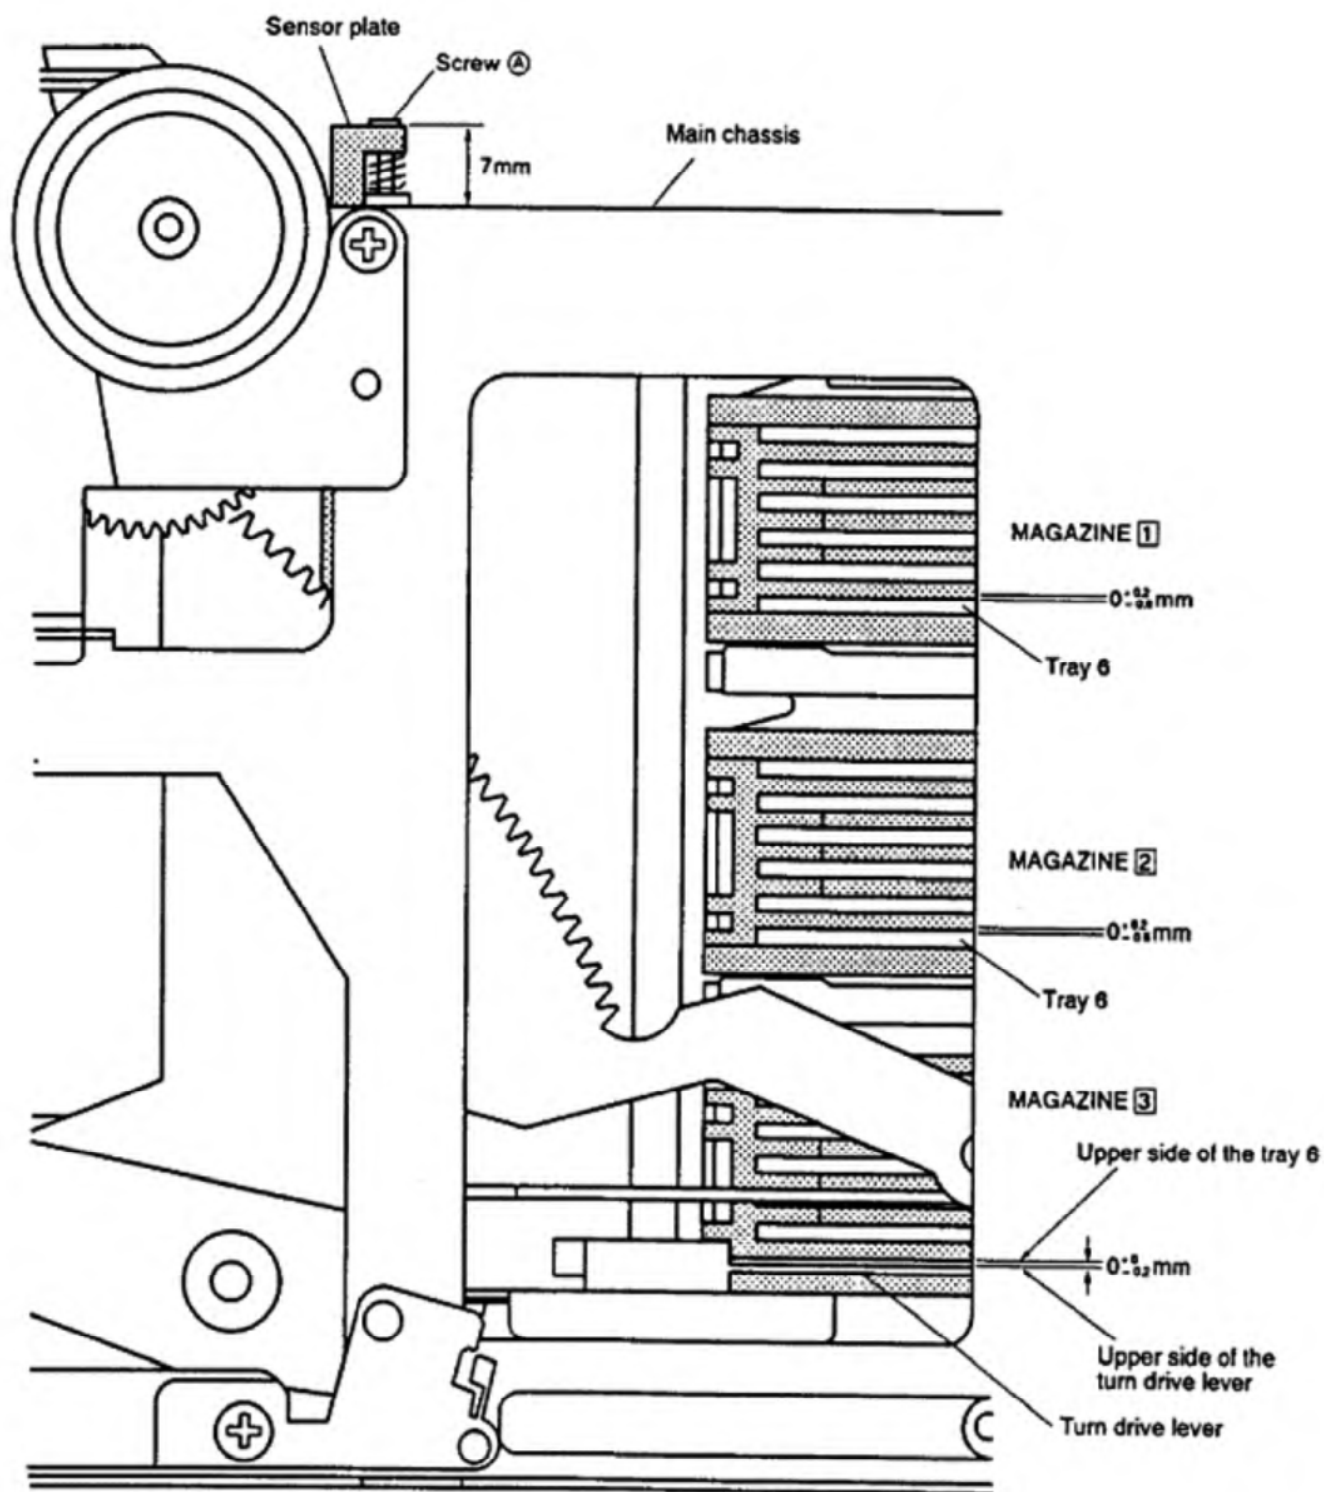

Figure. 7-2
1. Adjust screw (A) until the top of the sensor plate is 7mm above the main chassis. (Figure 7-2)
3. Insert the CD magazine into the Opening of MAGAZINE ③.
(Figure 7-2, MAGAZINE ③)
(Figure 7-2, MAGAZINE ①)